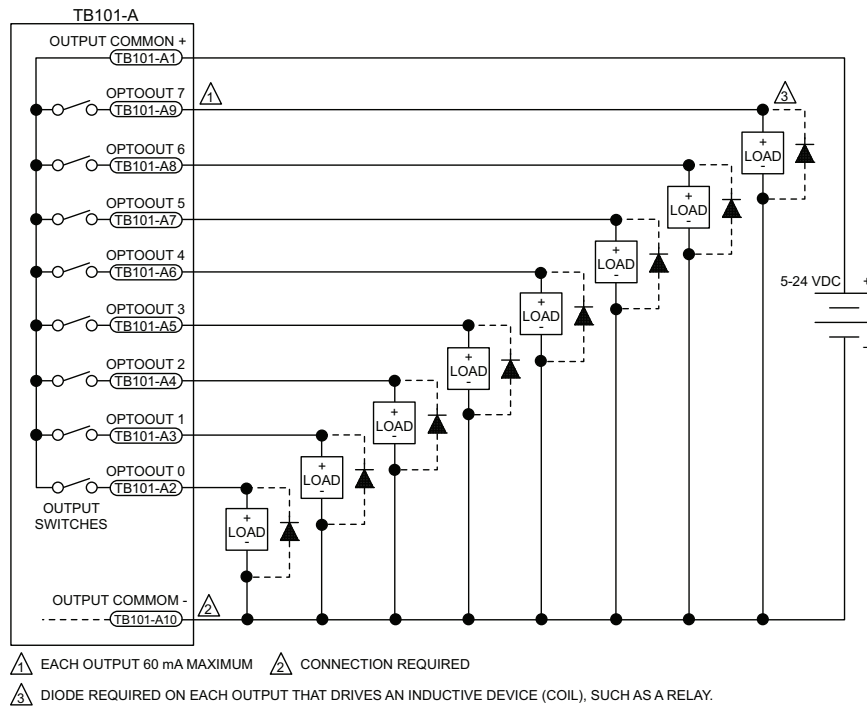
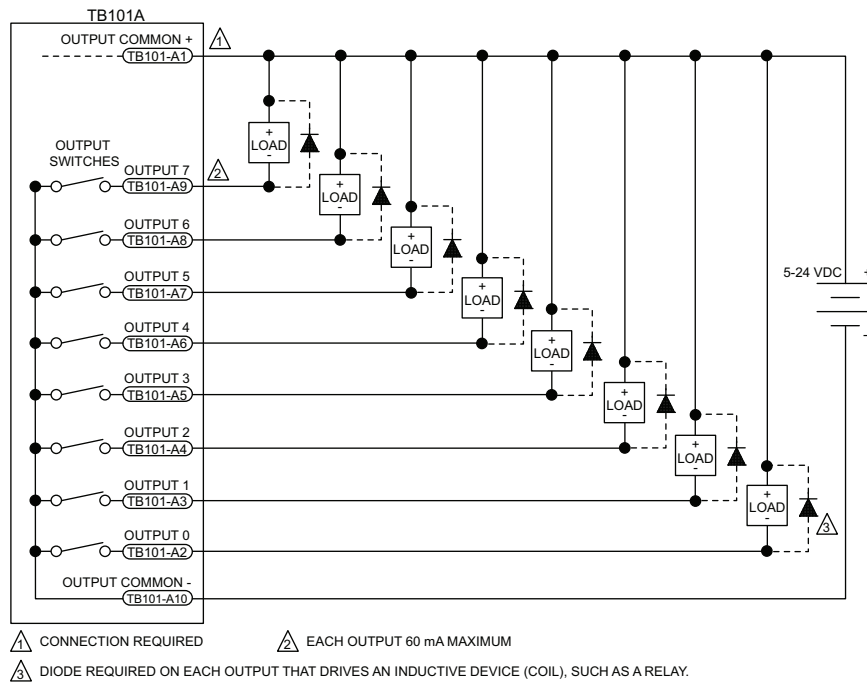

Figure 2-16: Outputs Connected in Current Sourcing Mode
Figure 2-17: Outputs Connected in Current Sinking Mode
Outputs must be connected in either all sinking or all sourcing mode. Figure 2-16 and Figure 2-17 illustrate how to connect to an output in current sinking and current sourcing modes, respectively.
**NOTE:** Power supply connections must always be made to both the Output Common Plus (OP) and Output Common Minus (OM) pins as shown in Figure 2-16 and Figure 2-17.
Suppression diodes must be installed on outputs driving relays or other inductive devices. This protects the outputs from damage caused by inductive spikes. Suppressor diodes, such as the 1N914, can be installed on all outputs to provide protection. It is important that the diode be installed correctly (normally reversed biased). Refer to Figure 2-17 for an example of a current sinking output with diode suppression and Figure 2-16 for an example of a current sourcing output with diode suppression.